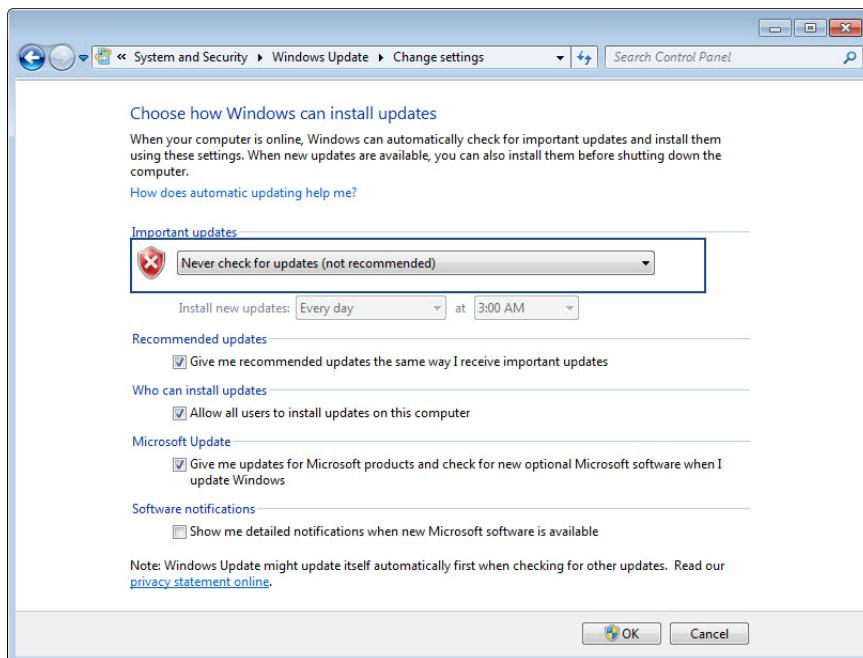

Figure 2-7. Deactivating automatic updates (C)
- 3 Under **Important updates**, choose **Never check for updates** and save this setting (Figure 2-7).